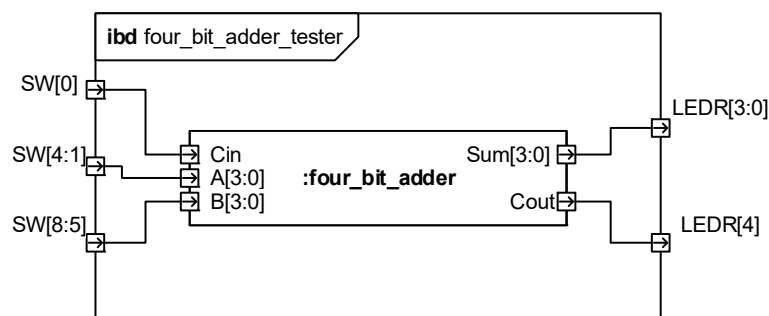

Fig. 4: 4-bit adder DE2 board tester IBD.
- c) Create a new tester for the 4-bit adder as described in figure 4, build and test the design on your DE2-board